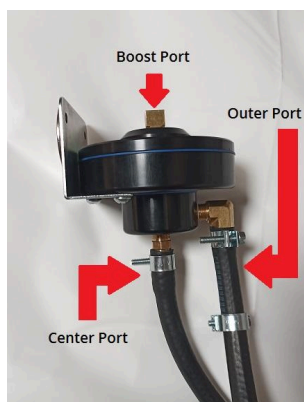

Figure 2: Hose Orientation
4. Next, locate the “Boost Port” (Figure 2) on the top of the FMU, and attach that hose to the factory fuel pressure regulator with the supplied “T” fitting. Please make sure the fuel pressure regulator hose is connected to the back of the supercharger, which is a vacuum and boost reference source (Figure 5). **Please note: your fuel pressure regulator hose should never connect to the throttle body or the intake tube, as those locations will not provide an adequate vacuum or boost signal.**